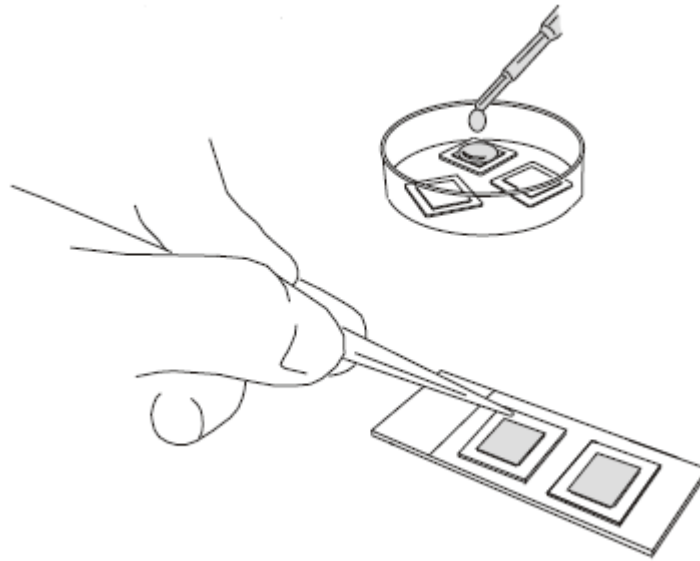

Figure 6
7. Coverslips can be affixed to a slide by means of the tacky silicone backing for routine processing of slides. The silicone backing can also be used to create a water barrier for probe incubations under the coverslip inverted and mounted on a slide as shown in Figure 6.